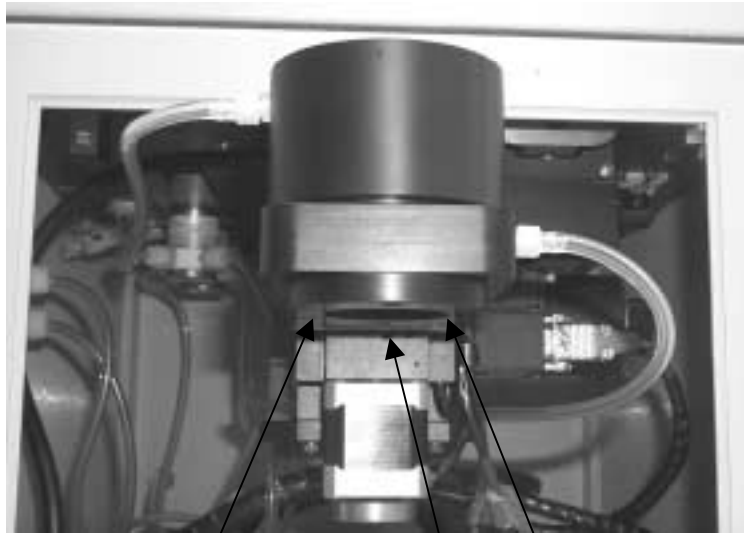

Figure 1.
3. Unscrew the tubing connectors from the sample cell and remove the sample cell by turning the lid. (See Figure 1).
4. Remove the three screws underneath the sample cell base. (See Figure 1).